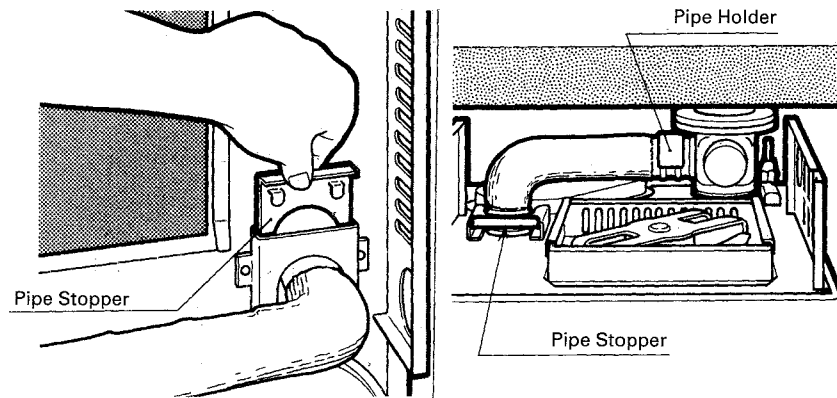

Fig. 12
8. Secure the L-shaped hose to the intake inlet mouth with the hose band. Secure the bent joint to the standard flue pipe with the pipe holder (If the extension pipe is used, also attach the pipe holder to the connection of the bent joint and the extension pipe). Secure the bent joint (or the extension pipe) to the exhaust outlet mouth by sliding the pipe stopper into the exhaust mouth bracket (See Fig. 12).